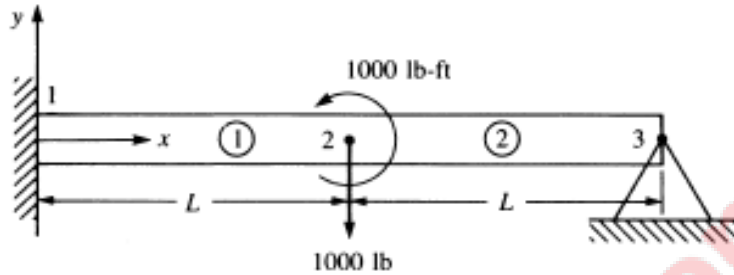

Figure 5
- Q.7 (a) For the fixed hinged beam subjected to a force and a moment as shown in Figure 5, determine governing equation in the form of  $F=KQ$  and show application of boundary condition. Assume  $EI$  to be constant throughout the beam. A force of 1000 lb and a moment of 1000 lb-ft are applied to the beam at midlength. The left end is a fixed support and the right end is a pin support. (F is global load vector, K is global stiffness matrix and Q is global displacement vector) 07